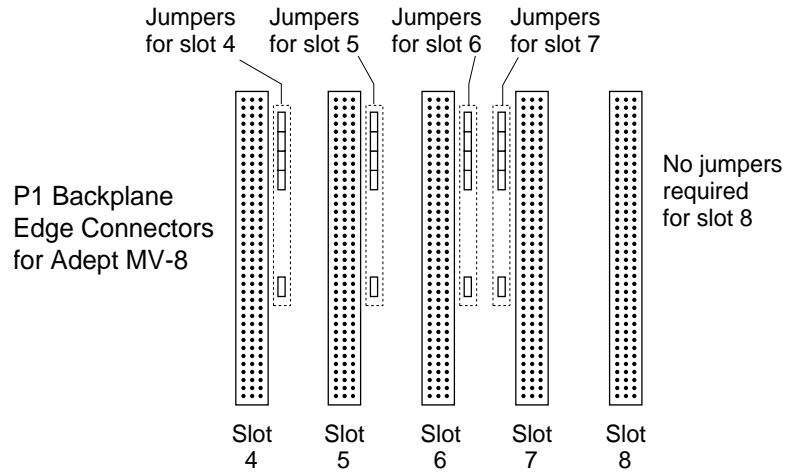
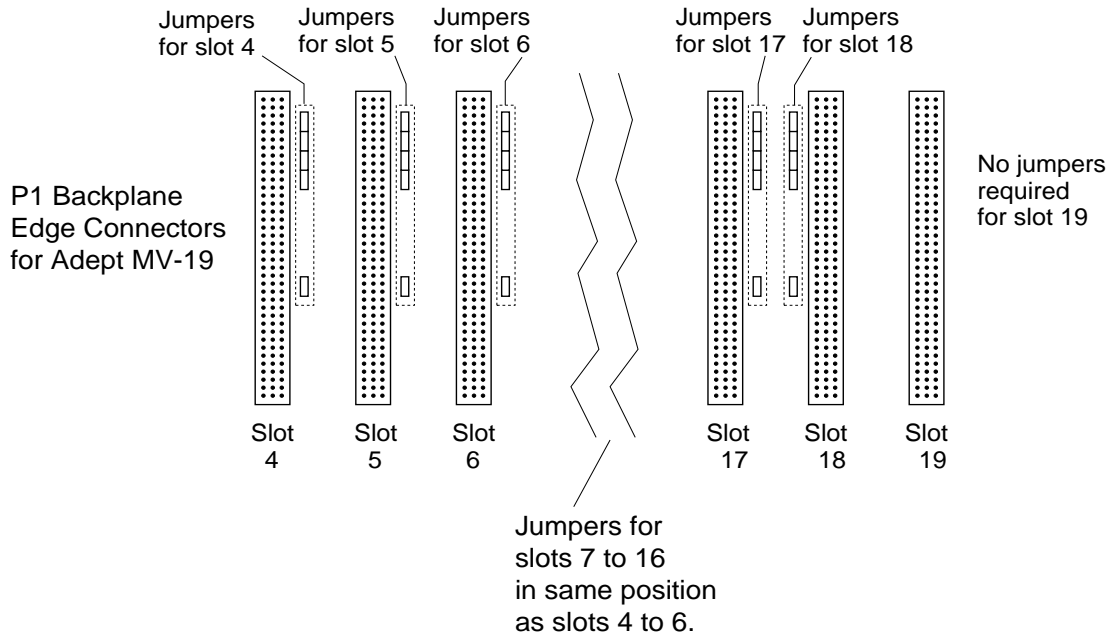

Figure 4-4. Adept MV-8 Backplane Jumper Plugs
Figure 4-5. Adept MV-19 Backplane Jumper Plugs
Five user-supplied backplane jumper plugs must be installed on any unused slots in the card cage that are to the left of the last installed module. Unused slots to the right of the last installed module do not need jumper plugs. When you install a module into a previously unused slot, you must first remove the five jumper plugs (if any are installed); see Figure 4-4 and Figure 4-5. Save the jumpers – if a module is moved to a different slot, you may need to re-install the five jumper plugs onto the five pairs of jumper pins on the backplane next to the empty slot.
3. Verify that the intended slot for the module is ready to accept the module. If the slot has been unused, make sure there are no backplane jumper plugs installed for that slot; see Figure 4-4 and Figure 4-5.